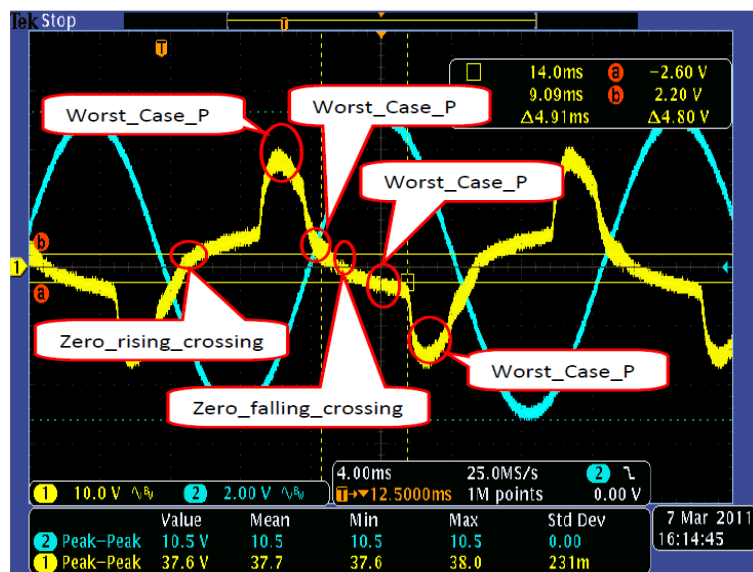

Figure C-2
(1) CMN measurement introduction:
- a. The yellow signals in Figure C-2 are CMN voltage waveform of DUT output. The CMN maximum could appear on the output voltage peaks or troughs (varies with models). The blue signals are the input AC voltage.